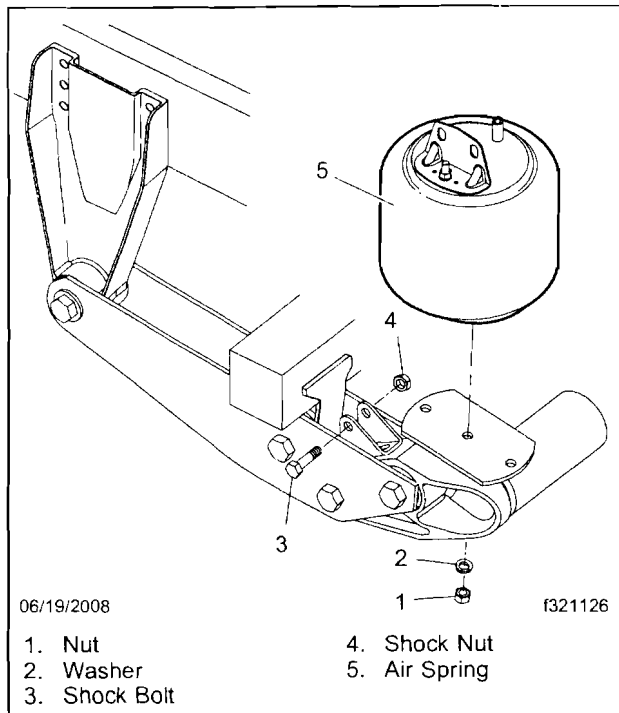

Fig. 5, Air Spring and Shock Lower Connections
7. Disconnect the shock absorbers and air springs at their lower connection. See Fig. 5.